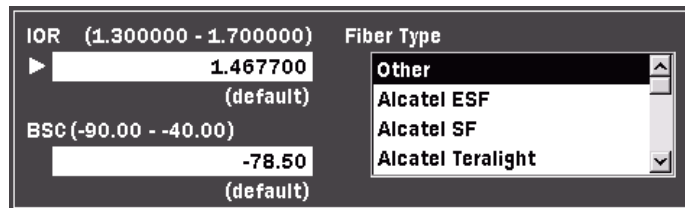

Figure 6-14: IOR/BSC Dialog box
2. Press the **Enter key**. The IOR/BSC dialog box appears (see Figure 6-14).